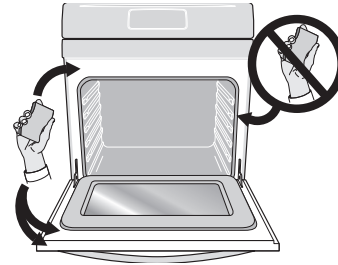

**Figure 21: Add 1 cup of tap water**
3. Pour 1 cup of tap water onto the oven bottom. (Figure 21) Close oven door